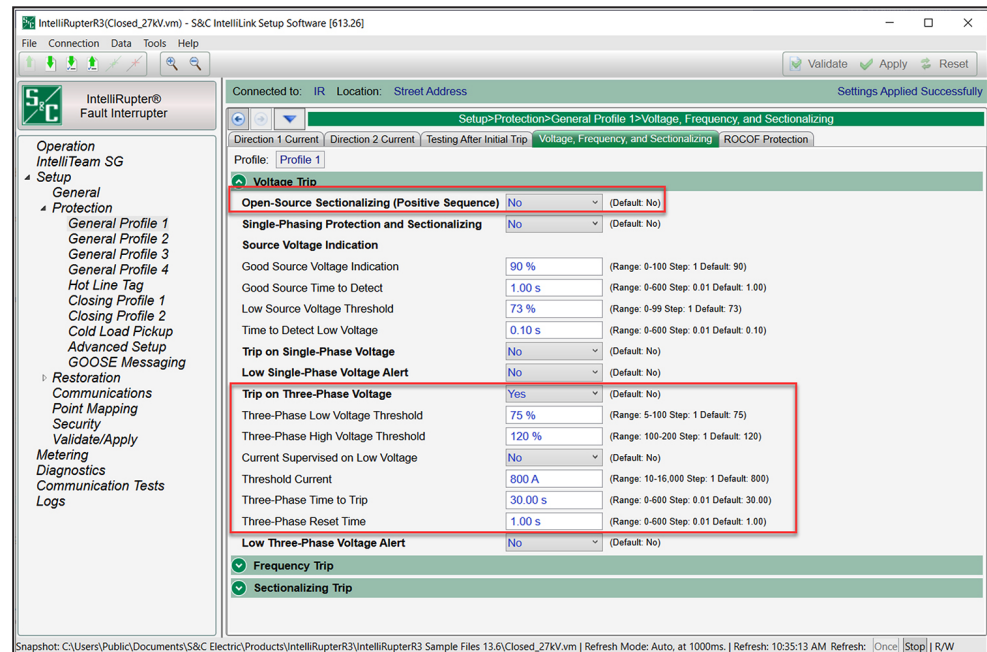

Figure 9. The Voltage, Frequency, and Sectionalizing—Voltage Trip settings.
STEP 2. Check the settings in the *Protection>General Profile 1-4>Voltage, Frequency, and Sectionalizing>Voltage Trip* screen and adjust them if necessary (See Figure 9):